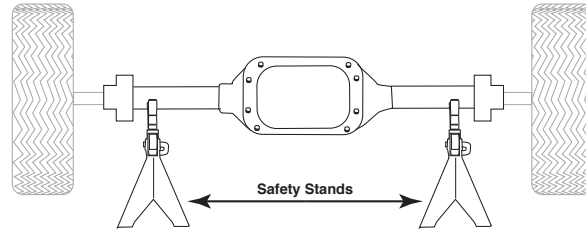

fig. 2
1. Raise the vehicle and support the axle with safety stands, setting the safety stands as wide as possible on the axle (Fig. 2)